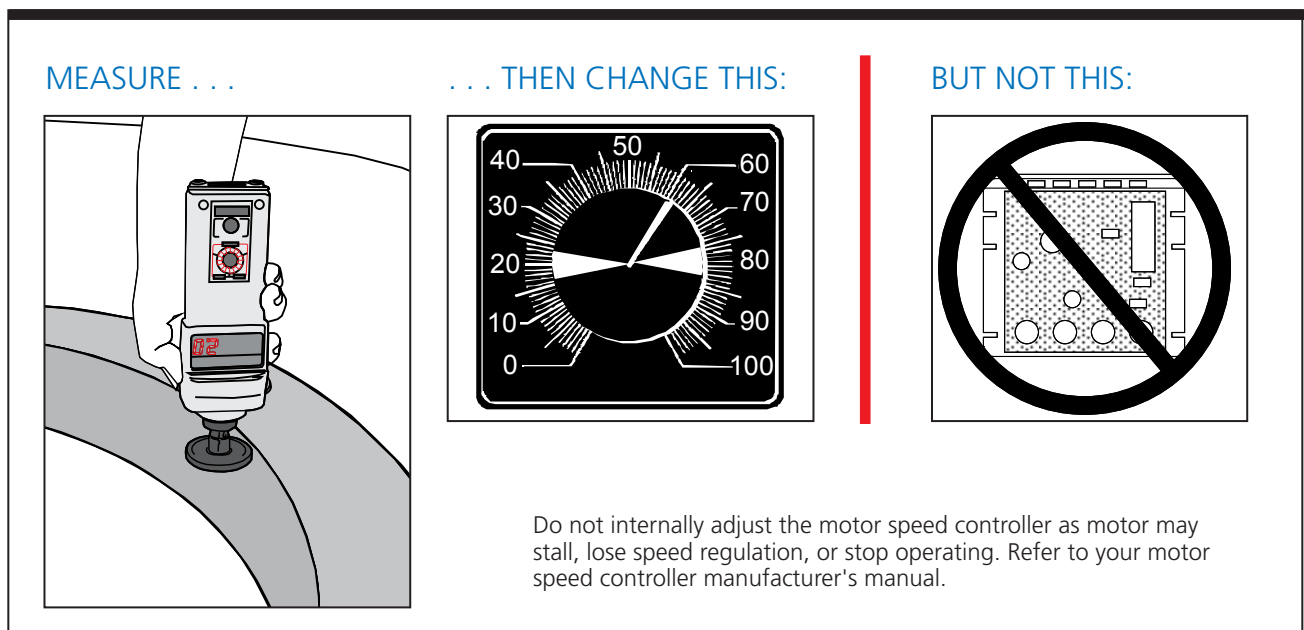

Figure 3-1. Measuring and Changing Bowl Speeds
- ➔ You will need a hand-held tachometer (analog or digital) with a surface speed wheel indicator (see Figure 3-1).